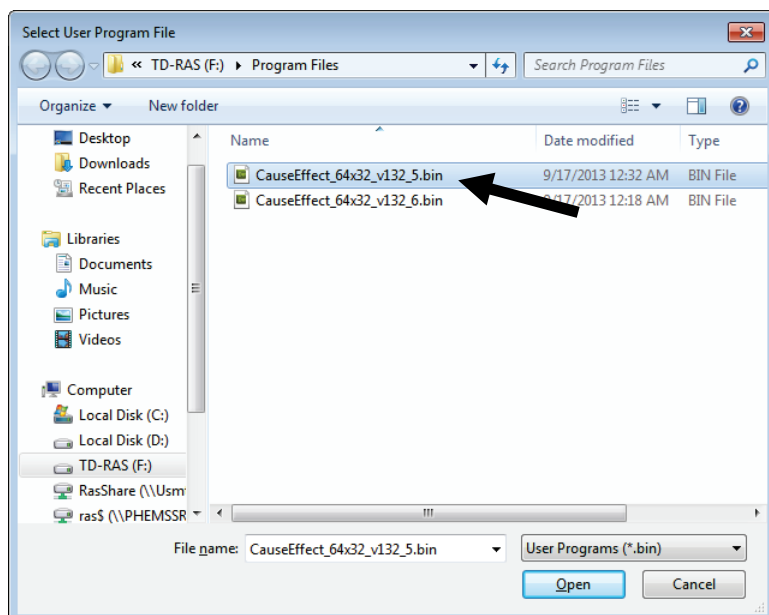

Figure 4. Select User Program File
4. Click **Browse** in the Download User Program File frame. The Select User Program File screen displays (see Figure 4).
5. Select the path and user program file to download from the CD-ROM. (Program files are typically located in the Program Files folder on the CD-ROM). As Figure 4 shows, the screen lists all valid user program files with the .BIN extension: